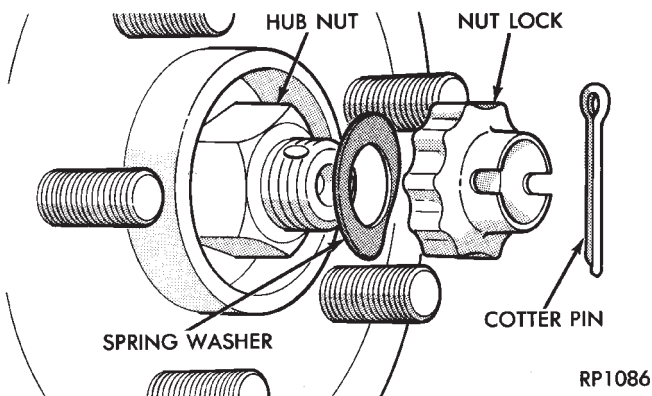

Fig. 3 Remove Cotter Pin, Nut Lock, & Spring Washer
- (1) Remove cotter pin, lock and spring washer (Fig. 3).